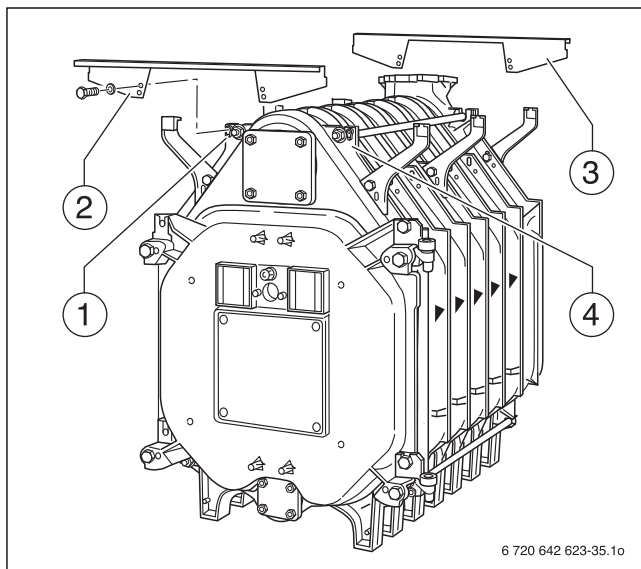

Fig. 37 Fitting the crosswise profile rails
- ▶ Fasten top front crosswise profile rails (→ Fig. 37, [2]) to the cast lugs (→ Fig. 37, [1 and 4]) and screw on hand-tight with hexagon bolts (M8 × 16). The folded edge on the front profile rail must face forward.
- ▶ Fasten top rear crosswise profile rail (→ Fig. 37, [3]) onto the cast lugs and screw in place with hexagon bolts (M8 × 16). The folded edge of the rear profile rail must point toward the rear.